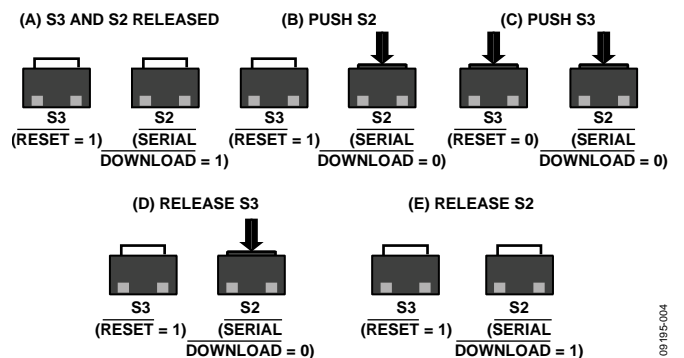

Figure 4. Download Mode Entry Sequence
4. Select the hex files location by clicking **Browse..** and reset the evaluation board. This is done by holding down the **SERIAL DOWNLOAD** button (S2), toggling the **RESET** button (S3), and releasing the **SERIAL DOWNLOAD** switch, which then resets the board (see Figure 4).